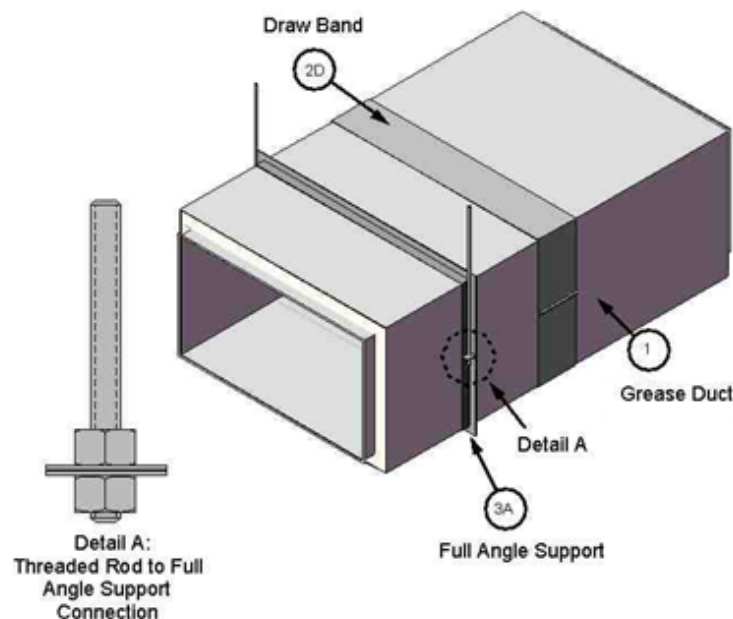

Figure 1. Model GRZA Grease Duct
Reference Figure 1. Install Pre-Fabricated Grease Duct in compliance with the requirements of NFPA 96, the International Mechanical Code (IMC), or other regulatory requirement, as applicable. Install at a slope
A. **HORIZONTAL SUPPORTS** – Support the Pre-Fabricated Grease Duct (Item 1) using supplied 2 in. x 2 in. x 3/16 in. steel, full-angle supports (See Figure 1) (two halves required); 2 in. x 2 in. x 3/16 in. steel angle trapeze style support; or
Place one threaded steel rod on each side of the Pre-Fabricated Grease Duct (Item 1) and fasten to the support member with appropriately sized nuts (see Figure 1, Detail A). Install the rods at a max. of 1 in. from each side of the Pre-Fabricated Grease Duct (Item 1). Space horizontal supports a max. of 12 ft. on center (oc). Reduce the support spacing for larger ducts to ensure that the load on each hangar (set of two threaded rods and support member) does not exceed 500 lb. Alternatively, use manufacturer-supplied, min. 2 in. wide, min. 11 GA, steel Hangar Bands (BHB) as the supporting member, and reduce the max. load per hangar to 420 lb.